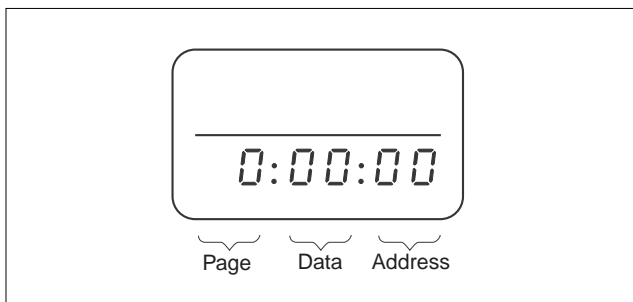

Fig. 6-4-1
- 2) Set the HOLD switch of the adjustment remote commander (RM-95) to "HOLD" (SERVICE position). If it has been properly connected, the LCD on the adjustment remote commander (RM-95) will display as shown in Fig. 6-4-1.